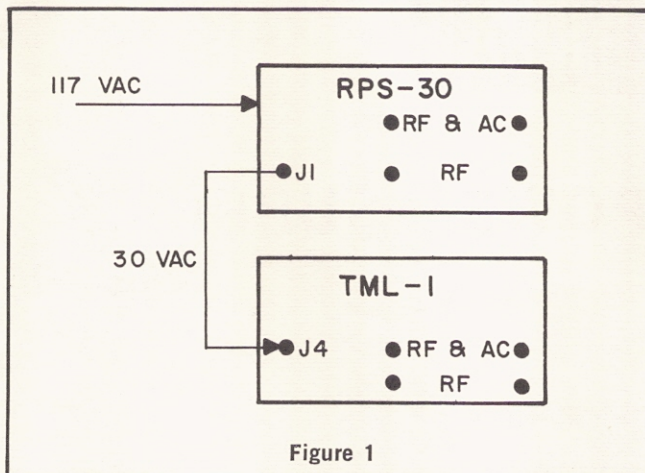
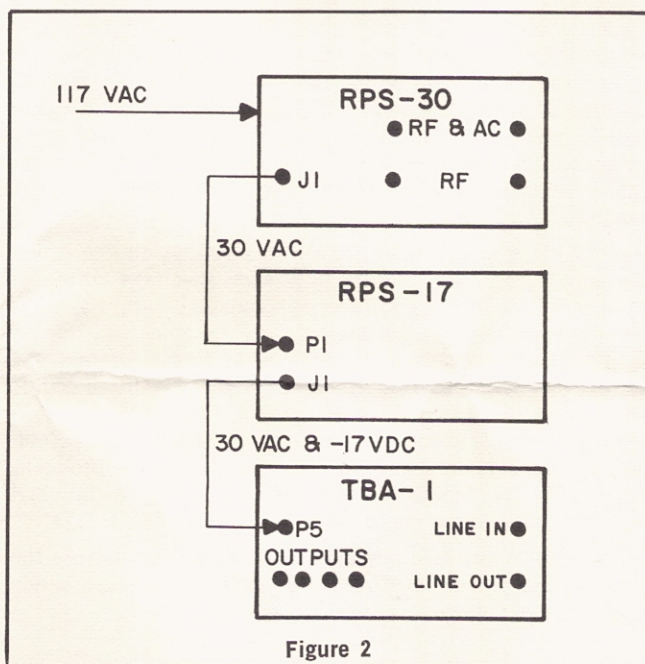

Figure 1
Figure 2
- a. At location with Model TML-1 (see fig. 1).
- (1) Connect J1 on Model RPS-30 (or J3 on RPS-15) to J4 on Model TML-1 using cable assembly shipped with power supply.
- (2) Plug RPS-30 or RPS-15 into a 117-v ac source.
- b. At AGC location, with Models SCA-213, AGC-213, RPS-17 and TBA-1 (see fig. 2).
- (1) Plug P1 of Model RPS-17 into J1 of Model RPS-30 (or J3 of RPS-15).
- (2) Plug P5 of Model TBA-1 into J1 of Model RPS-17.
- (3) Same as a.(2).